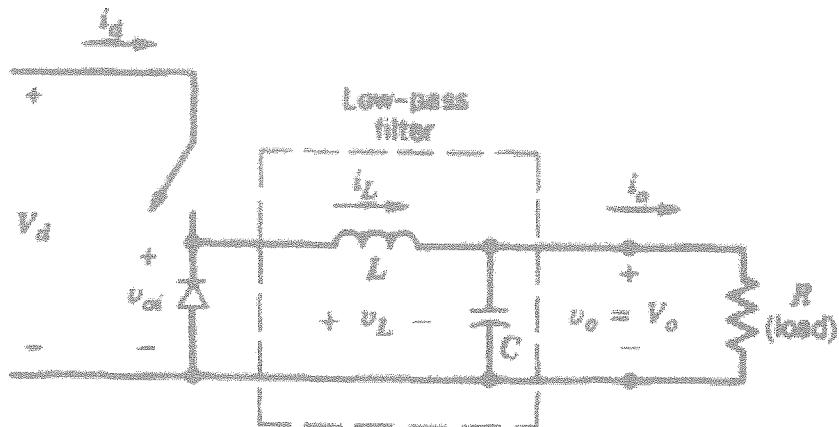

Figure Q2: Buck Converter
- Q2** a) The buck converter shown in Figure Q2 is used to regulate a DC power supply.